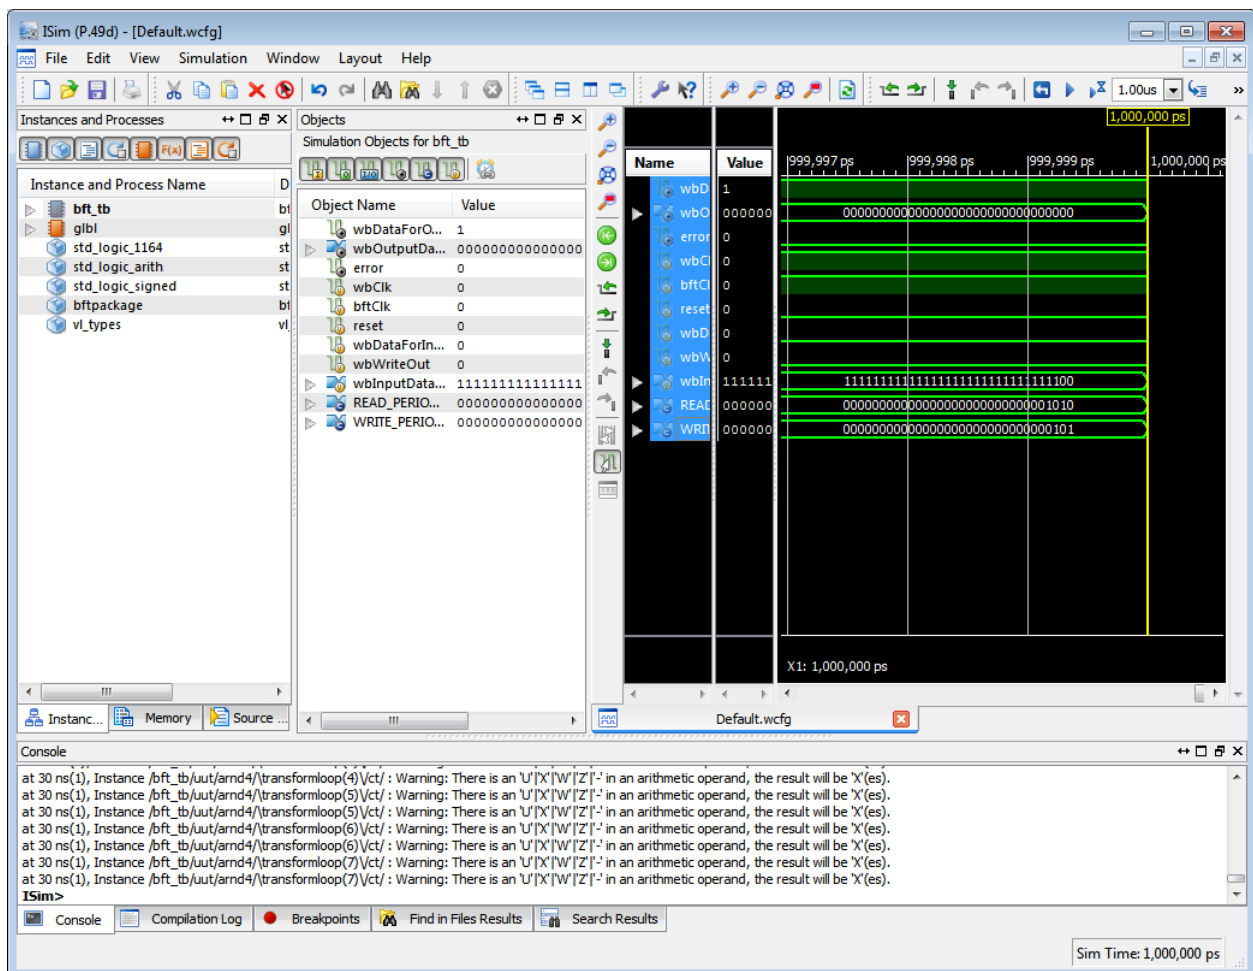

Figure 20: Running ISim for Behavioral Simulation
3. Double-click the **LineState[1:0]** pin on the outside of the u0 module to expand the schematic outward from the pin as shown in Figure 20.
The RTL Macro Resources displays in the Netlist Properties view, as shown in Figure 20. If the Netlist Properties view is not displayed, select **Window > Properties** from the main menu.